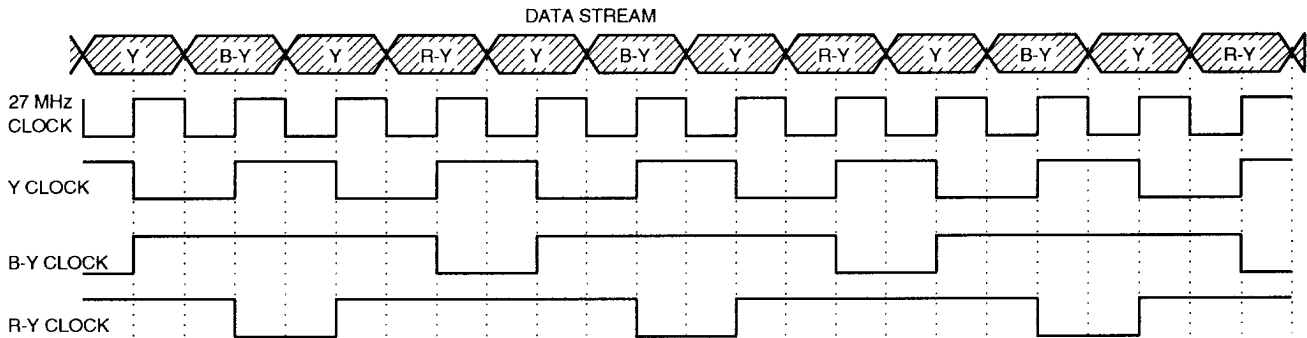
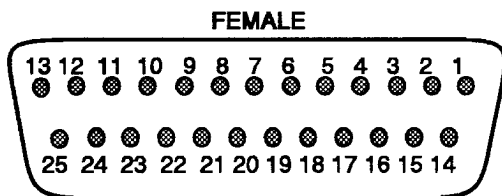

Fig. 2-10. Clock output timing relationships.
Fig. 2-11. Pinout of the Digital Video outputs.
27 MHz Clock, Y Clock, R-Y Clock, & B-Y Clock. (See Fig. 2-10.) These clock signals can be used with a demultiplexer to demultiplex the signal from the digital output data stream.
① Remote	Remote Control Input.
② Digital Out 1	Parallel Digital Video Output (Buffered). See Table 2-4.
③ Digital Out 2	Parallel Digital Video Output (Buffered). See Table 2-4.
④ Genlock Loop Through	Genlock Input.
⑤ 27 MHz Clock	ECL Levels. Positive transition during each data packet. See Fig. 2-10.
⑥ Y Clock	ECL levels. Positive transition during luminance data packets. See Fig. 2-10.
⑦ R-Y Clock	ECL levels. Positive transition during R-Y data packets. See Fig. 2-10.
⑧ B-Y Clock	ECL levels. Positive transition during B-Y data packets. See Fig. 2-10.
⑨ Black	Analog Black Burst Outputs.
Digital Out 1 & 2. The luminance channel is clocked at 13.5 MHz and the color difference channels are clocked at 6.75 MHz. Color difference samples are co-sited with the odd numbered luminance samples illustrated in Fig. 2-10. Table 2-4 lists the pinout for the Digital Out 1 & 2 connectors and Fig. 2-11 illustrates the connector as an aid in pin location.